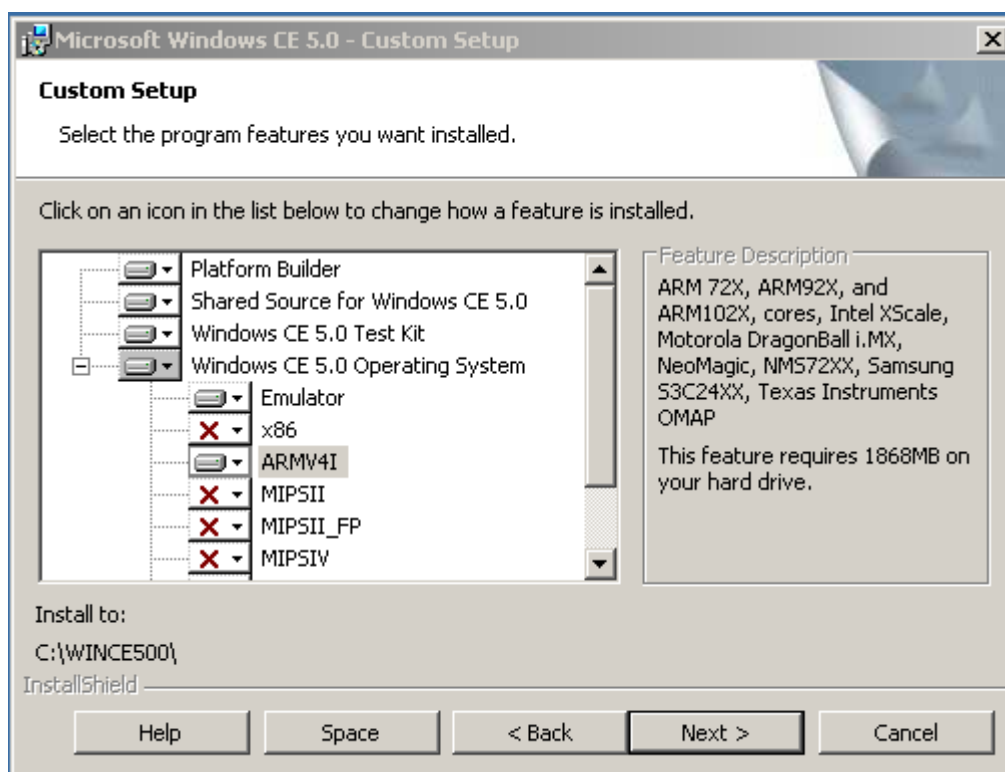

Figure 1-3 Custom Setup Window
- At the Custom Setup window, select the options shown in Figure 1-3.